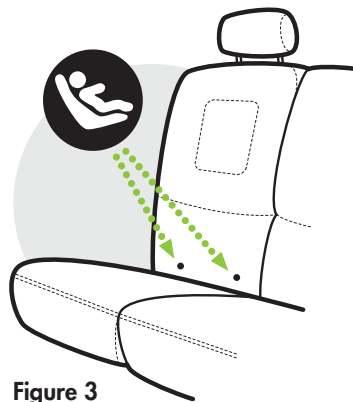

Figure 3
- If not readily visible, the LATCH lower anchors may be noted by a symbol located near the crease between the seat back and seat cushion, as shown in **Figure 3**.